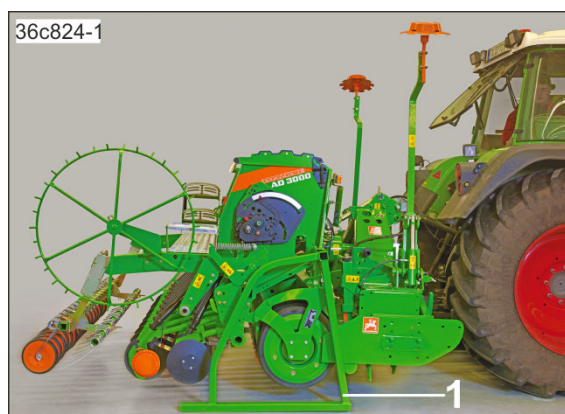

Fig. 136
9. Slide 2 parking supports (Fig. 136/1) into the mounting until the stop.